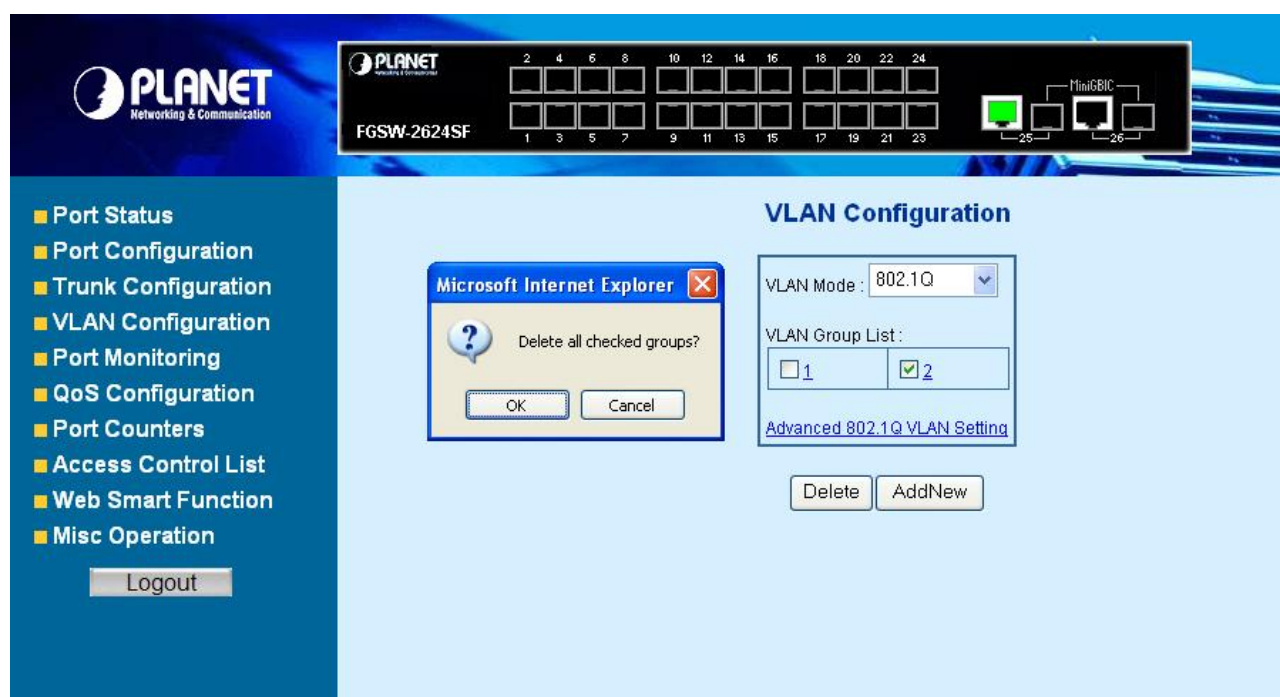

Figure 4-38 Delete 802.1Q VLAN group Web Page screen
3. Then the **“Delete all checked groups”** window appears, please press **“OK”** to continue the delete VLAN group procedure and the screen in Figure 4-38 appears.